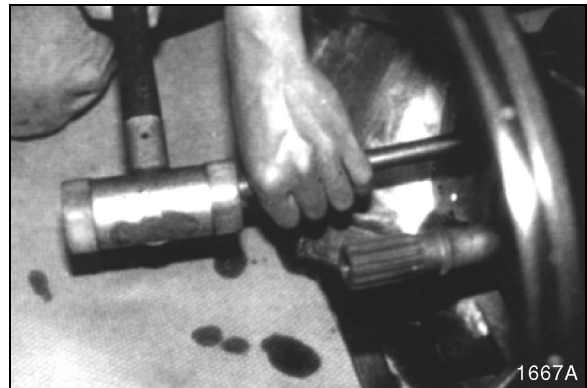

Figure 74
11. Place pipe on edge of idle shaft and strike with plastic hammer to remove rotary group. See Figure 74.